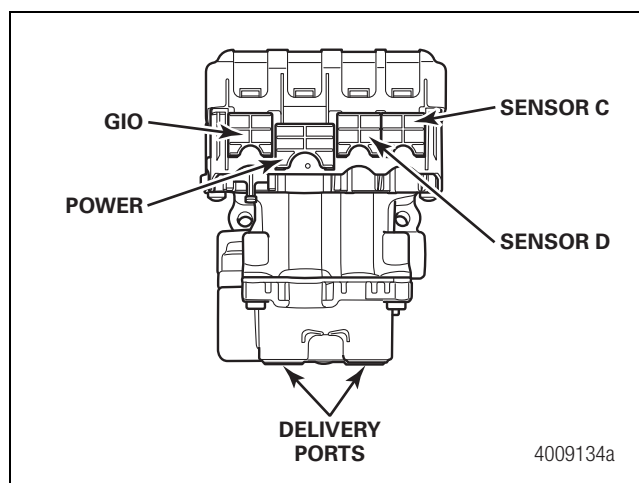
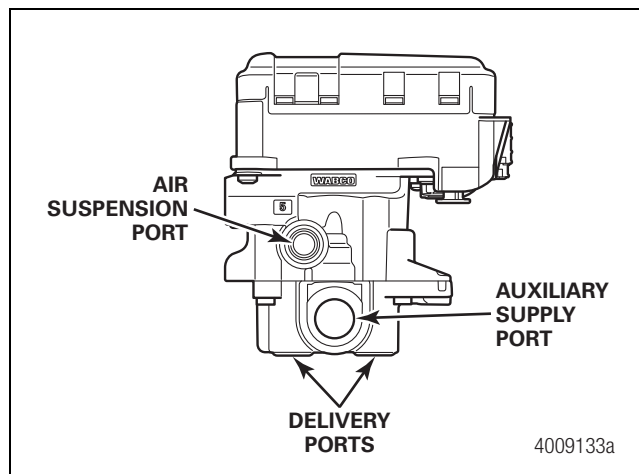
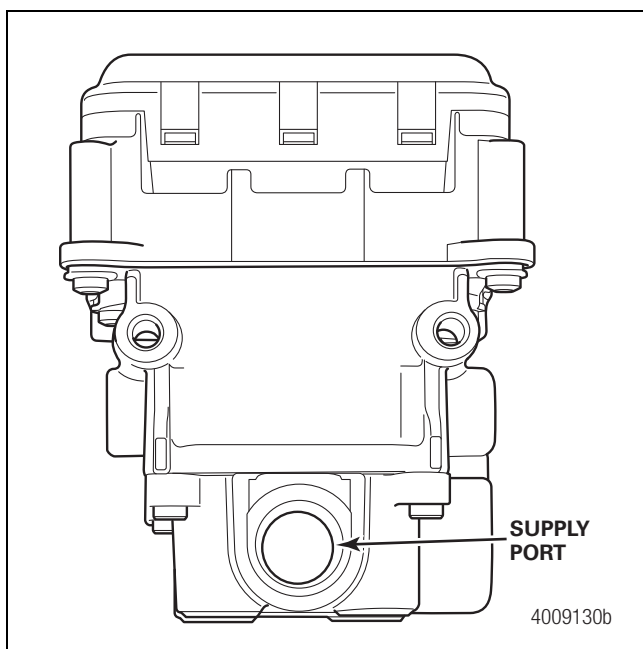
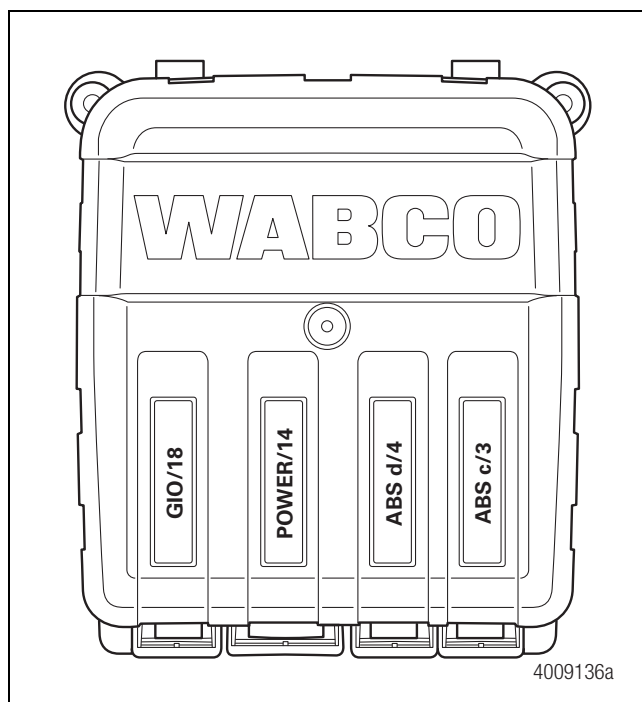

Figure 1
Figure 2
Figure 4
Figure 5
The valve portion of the electronic control unit (ECU) modulator valve assembly contains one separate modulator valve with four delivery ports. The mounting orientation — whether the valve is mounted with the sensors facing the front or the rear of the trailer — determines sensor hookup. Figure 1 through Figure 5.
1. For tank-mounted ECUs, first connect the ECU/modulator valve assembly directly to the air reservoir using a schedule 80 NPTF fitting. Tighten the fitting between the supply port of the ECU/modulator valve assembly and the air reservoir to 122 ft-lb (165 N•m). Refer to Figure 2 and Figure 4 for supply port location.
2. For remote-mounted ECUs, connect the air supply line from the supply tank to the 3/4-inch NPTF supply port on the ECU/modulator valve assembly. **Use 5/8-inch minimum O.D. nylon tubing.** Tighten the fitting to 122 ft-lb (165 N•m). Plug the unused supply port. Refer to Figure 2 and Figure 4 for supply port location.
3. Connect air delivery lines to the ECU valve assembly. The ports labeled 2 are 3/8-inch NPTF. Tighten the fittings to 59 ft-lb (80 N•m). Refer to Figure 1 and Figure 2 for deliver port location.